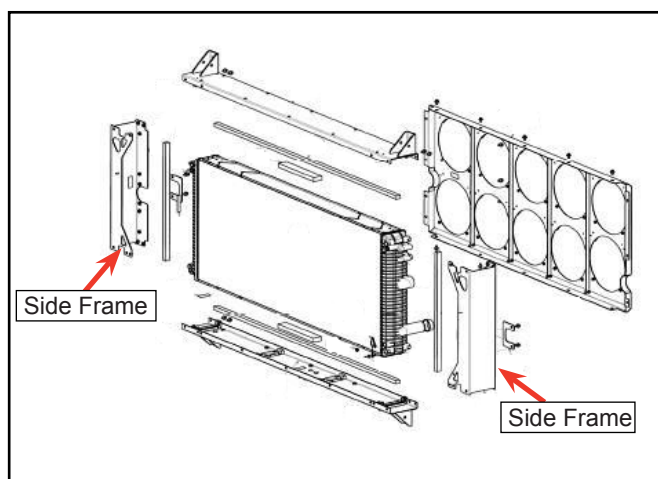

Figure 6 - Typical View of Radiator Frame Disassembly
- 1.22. Disassemble the side frames of the radiator assembly (see Figure 6).